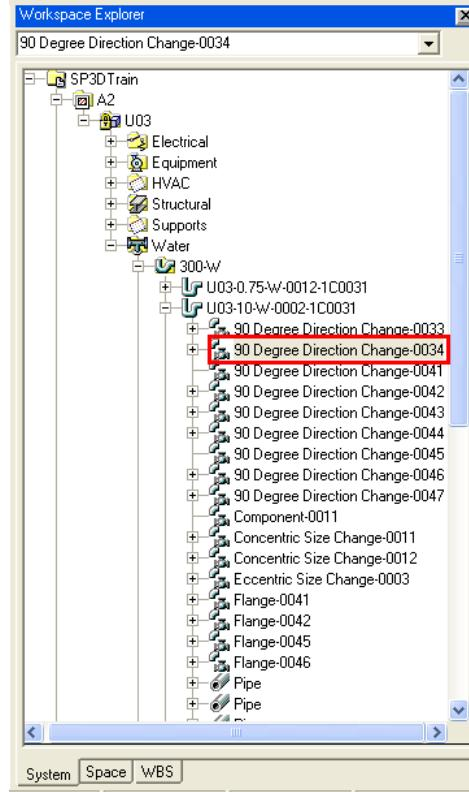

Figure 3: Elbow Located in the Workspace Explorer
18. Locate the elbow **90 Degree Direction Change-0034** from the **Workspace Explorer**, as shown in Figure 3, to highlight it in the graphic view.